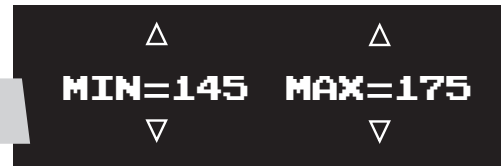

fig. 4
3. Press button 1 (TANK ADJUST). Set tank pressure preference by pressing MIN and MAX up/down buttons (fig. 4). Press buttons 1+5 to exit to settings and diagnostics mode.